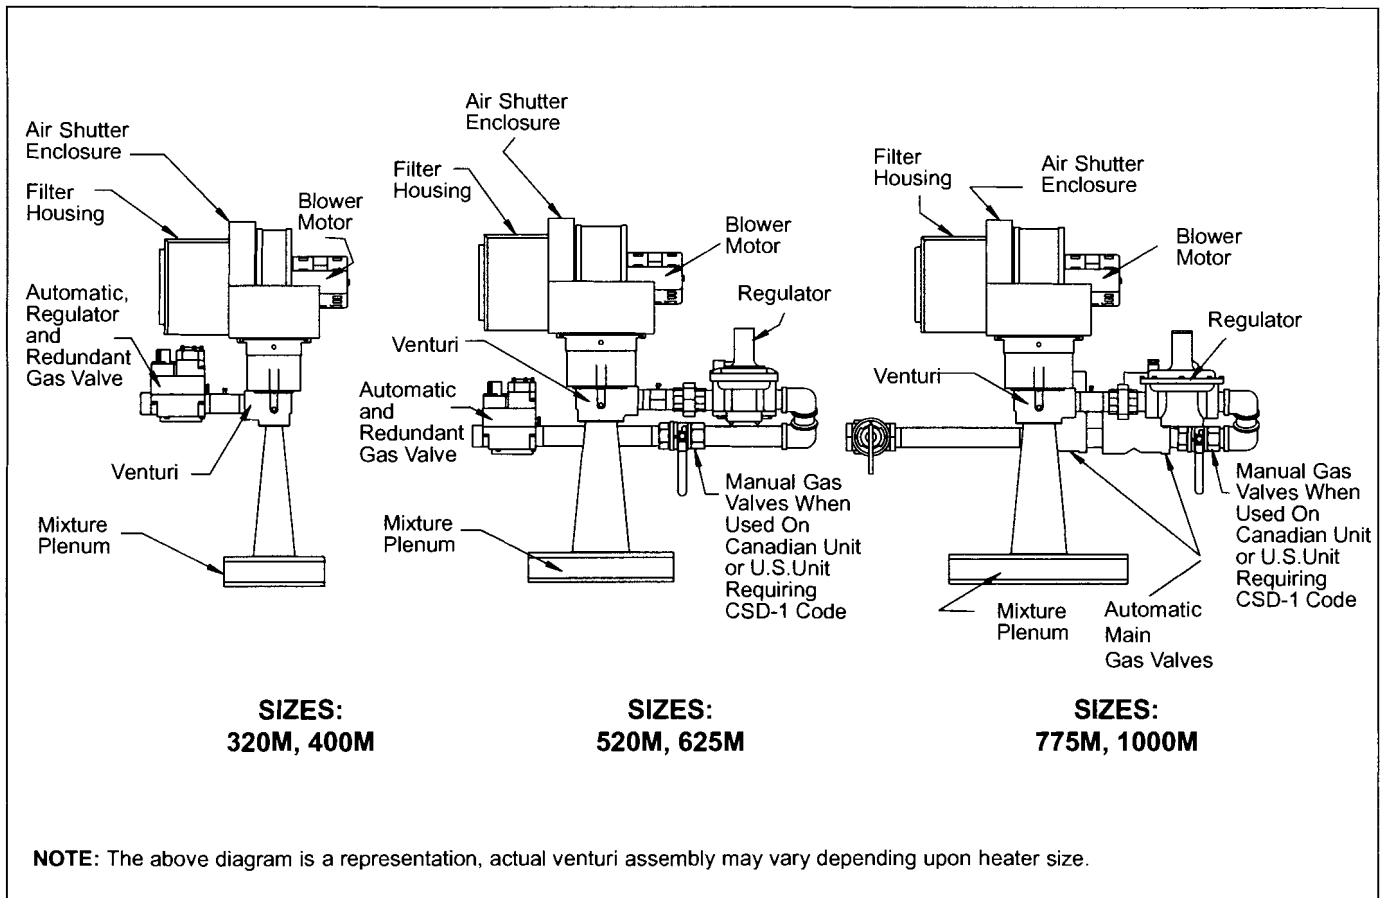

Figure 3. Heater Gas Valve Arrangement.
1. Gas piping installation must be in accordance with the latest edition of ANSI Z223.1/NFPA 54. In Canada, the installation must be in accordance with CAN1-B149.1 or .2 and all local codes that apply (see Figure 3 for heater gas valve arrangement).